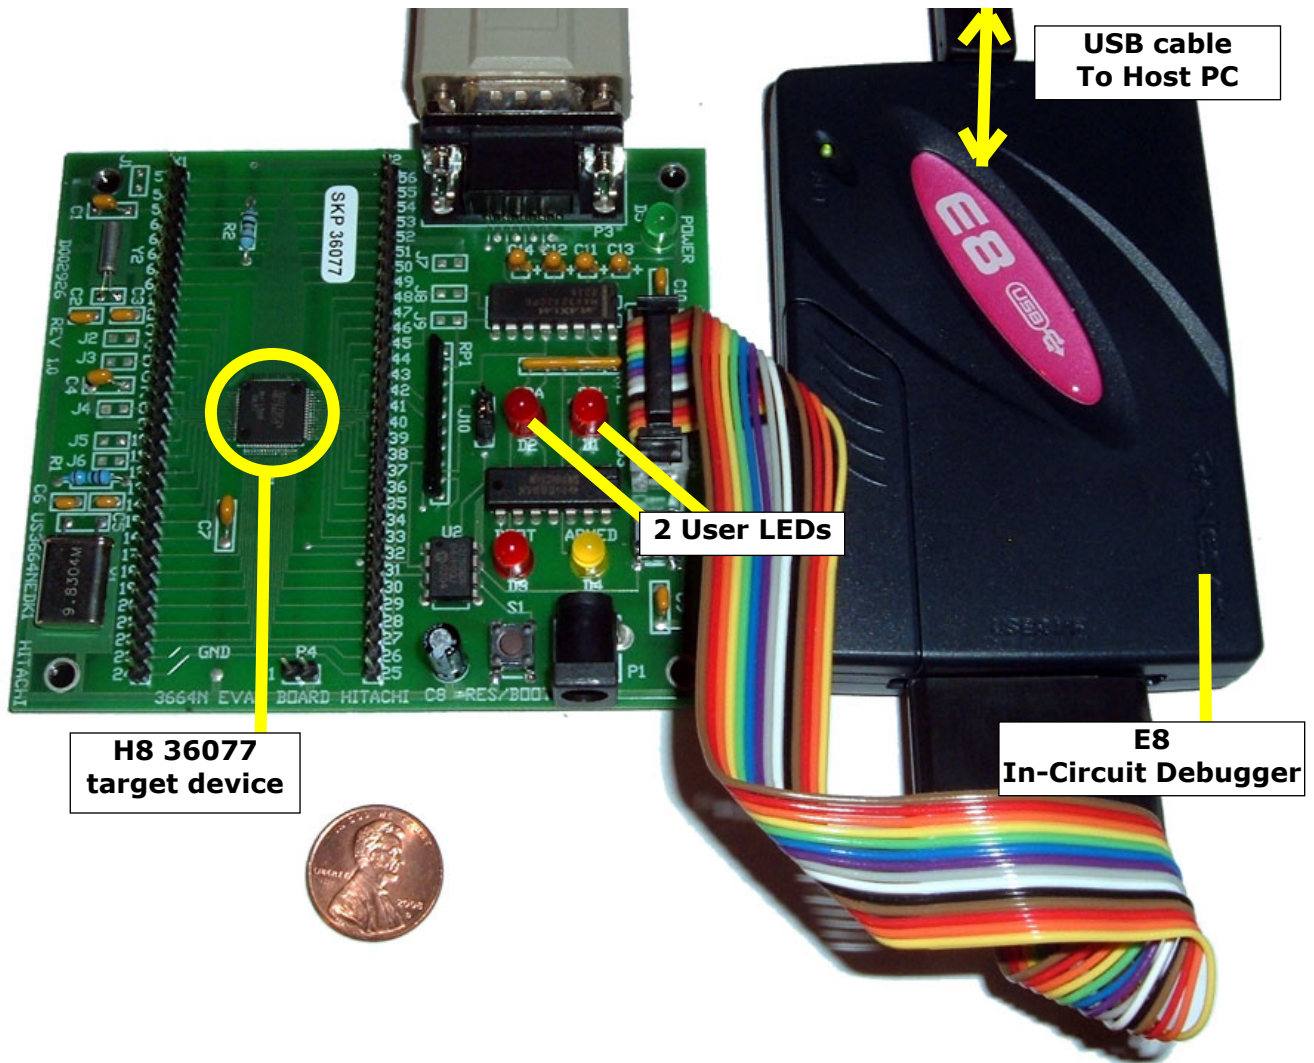
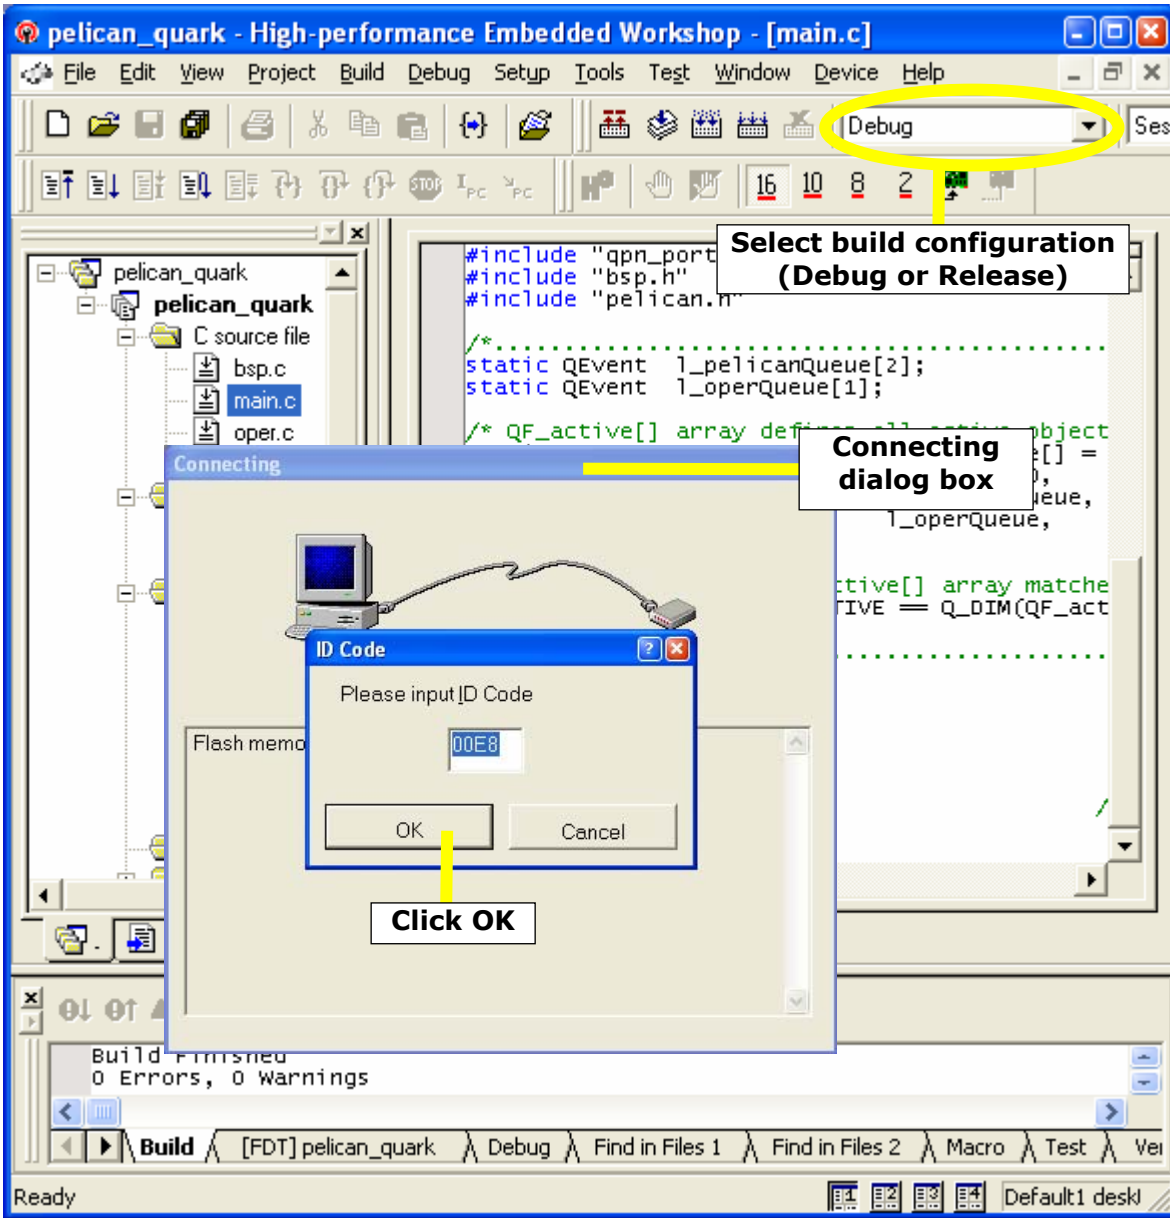

Figure 1 Renesas H8/SKP36077 Starter Kit with E8 In-Circuit Debugger.
Figure 2 HEW IDE with the pelican_skp36077 project
The actual hardware/software used to test this QDK-nano is described below (see Figure 1):
As shown in Figure 1, the Renesas H8/SKP36077 Starter Kit (SKP) contains the SKP36077 board and the E8 In-Circuit Debugger that connects directly to the host development workstation via the provided USB cable. The USB connection also powers up the board, so no additional power is required. This QDK has been tested with the H8/36077 device with 4KB of RAM and 56KB of onboard flash. However, the described port should be applicable to most H8S, H8/300 devices.
The example directory contains the HEW workspace file `pelican_skp36077.hws` that you can load into the HEW IDE. The workspace contains two build configurations (Debug and Release) that you can select with the drop-down list, as shown in Figure 2.
2. Launch HEW IDE and open the project `pelican_skp36077.hws` (located in `<qpn>\examples\h8\renesas\pelican_skp36077\`). Figure 2 shows the screen shot of the HEW IDE after opening the project.
3. Establish a connection to the SKP36077 board by clicking OK in the "Connect" dialog box (see Figure 2).
NOTE: The PELICAN example workspace comes with two build configurations: Debug and Release. You select the build configuration through the drop-down box, as shown in Figure 2.
The HEW debugger can directly communicate with the E8 In-Circuit Debugger (see Figure 1). To load the code into the MCU’s flash, select Debug | Download Modules menu (see Figure 2). This will launch the progress-bar message box. When the message box window goes away, the MCU is programmed.
Figure 1 shows the PELICAN example running on the SKP36077 board. The operation of the PELICAN crossing is visualized by means of the two User LEDs (see Figure 1). The LED1 is used for the cars (the LED corresponds to red light for the cars). The LED2 is used as signal for pedestrians (or LED2 on means “DON’T WALK”). Since the SKP36077 board has no push-buttons, the activity of pedestrians (as well as the operator) is simulated by the Pedestrian active object.